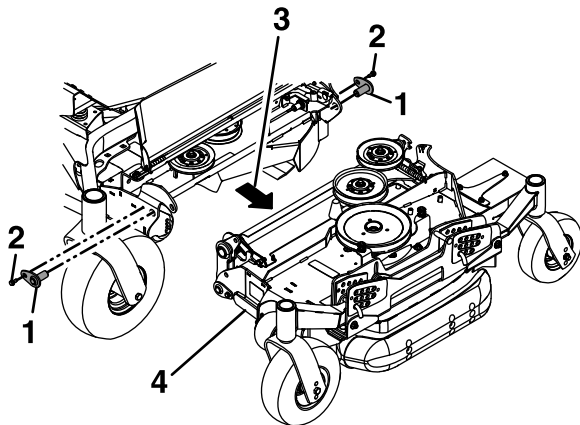

**Figure 87**
- 14. Remove the flanged bushings from the upper pivot points and clean the bore (Figure 87).
- 18. Remove and retain the lower pivot point bolts (Figure 84 and Figure 87).